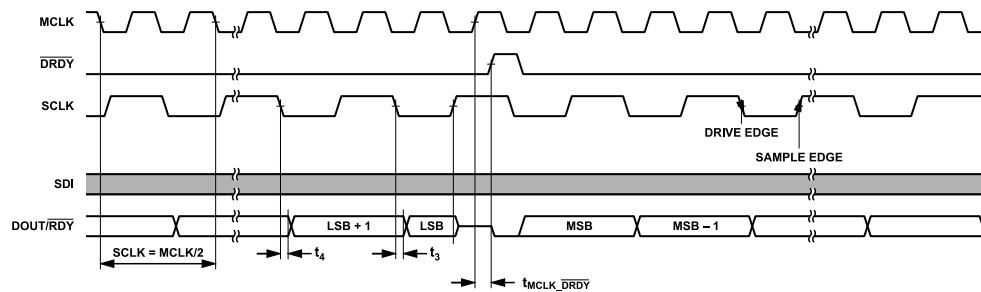

Figure 153. Recommended Interface for Reading Conversions, SPI Control, Continuous Readback Mode
The ADAQ7768-1 interface is flexible to allow the many modes of operation and for data output formats to work across different DSPs and microcontroller units (MCUs). To achieve maximum performance, Figure 153 show the recommended interface configuration
Figure 153 shows how the recommended interface operates. The data read back spans the entire length of the  $\overline{DRDY}$  period and the LSB remains until  $\overline{DRDY}$  goes high for the next conversion.
2. Generate SCLK based on the  $\overline{DRDY}$  or  $\overline{RDY}$  timing. SCLK is high when the  $\overline{DRDY}$  signal goes high and transitions on the MCLK falling edges (see Figure 153) to ensure that the LSB can be read correctly as the DOUT/RDY output is reset on the  $\overline{DRDY}$  rising edge. However, SCLK rising occurs before this transition.
Because the full ODR period is for clocking data, the  $\overline{RDY}$  signal no longer flags after each LSB outputs. This signal only flags if the ADAQ7768-1 is in the continuous readback mode, or if the ADAQ7768-1 does not count 32 SCLKs within  $1 \times t_{MCLK}$  before  $\overline{DRDY}$ , as shown in Figure 153.